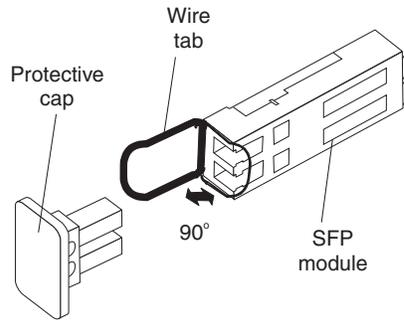

Figure 20. Unlocking an SFP module - wire tab
- a. Unlock the SFP module by pulling the wire tab downward 90° (see Figure 20 on page 24).